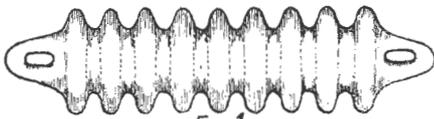

FIG 1.
and if it is brittle, it will be a good idea to replace it with new wire. Look at the insulators, that will no doubt be covered with dirt. Clean them off thoroughly, and if any are cracked, they should be replaced with good ones. The longer the surface of the insulator the better. An insulator 6 inches long and grooved as shown in Figure 1 will have much more surface than an 8 inch one as shown in Figure 2. By actual measurement, a 12 inch insulator has a leakage surface of  $17\frac{1}{2}$  inches. If you have any splices in the aerial, it would be a good plan to examine them now, for while it may have seemed to good joint then, it may not have been. While looking over your aerial you might as well give your ground wire and connections a close examination. If you are using a clamp, take it off
**G. M. H. (Singleton).** Q.: What size coils would be required to receive 2FC, using circuits shown in Figs. 1, 3 and 4, *Radio*, No. 39? A.: Fig. 1: Coils should be 150, 200 and 100. Fig. 3: 150, 200, and coils C and D, approximately 200 each. Fig. 4: 150, 200 and 100. Q.: Would two .001 condensers be satisfactory instead of those specified? A.: Yes, one for the aerial circuit, but would be too large for tuning the other coils. Using this condenser in the primary you will probably only need a 100-turn coil. As sizes of coils given depend upon the size of aerial and condensers used, the best method is to obtain additional coils slightly smaller and larger than those specified and select suitable coils for the desired wave-length. Q.: Would an ordinary medical induction coil with iron core do in circuit as per Fig. 4? A.: No. Q.: What B battery voltage does a Cossar valve require? A.: We do not know. Q.: Would you recommend Fig. 4 for this district? A.: Yes.